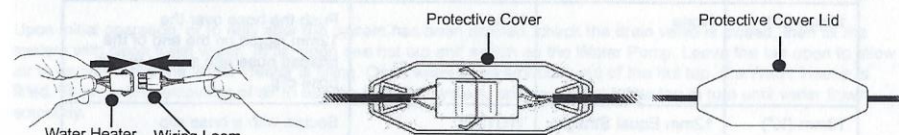

Fig. 21 Mains Electrical Connection
**Vehicle Manufacturer Installation (Whale Part Number: WH0802B or WI0802B)** (see Fig. 21)
#### Vehicle Manufacturer Installation Example (see Fig. 21)